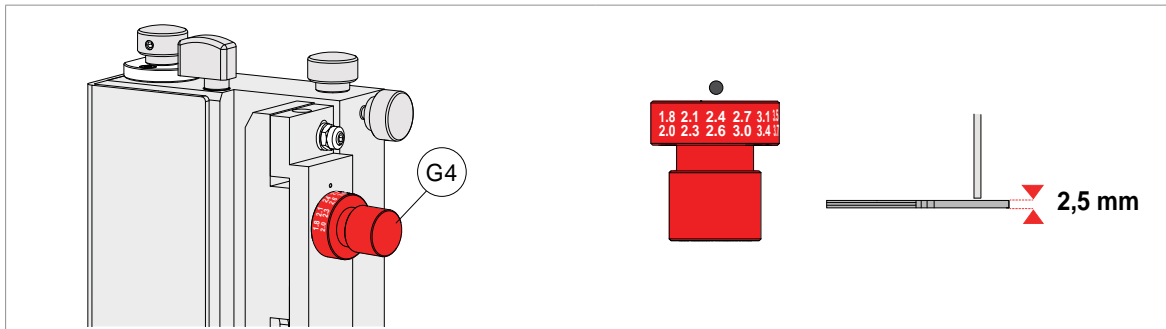

Fig. 116
The knob (G4) shows some indications of thickness to facilitate regulation (Fig. 116).
- 12) Use knob (G4) to adjust the thickness of the Z34A template on the loader (2.7mm / 3mm) (Fig. 116).